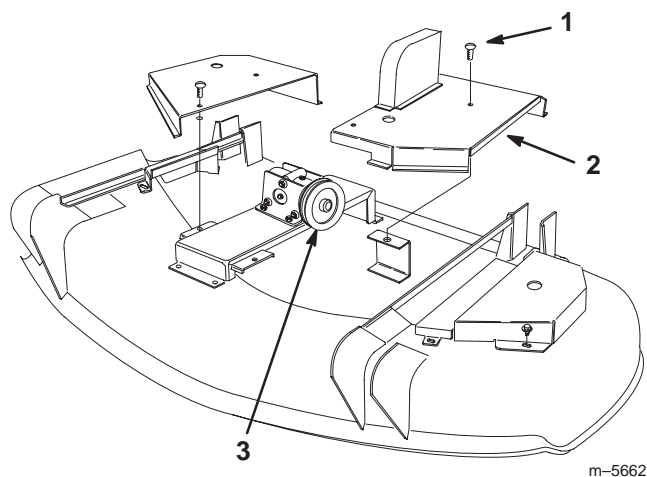

Figure 29
1. Loosen the 2 fasteners on the left center deck cover. Remove the left center deck cover to expose the gearbox input pulley (Fig. 29).
4. Install the left center deck cover onto the deck with the fasteners (Fig. 29).